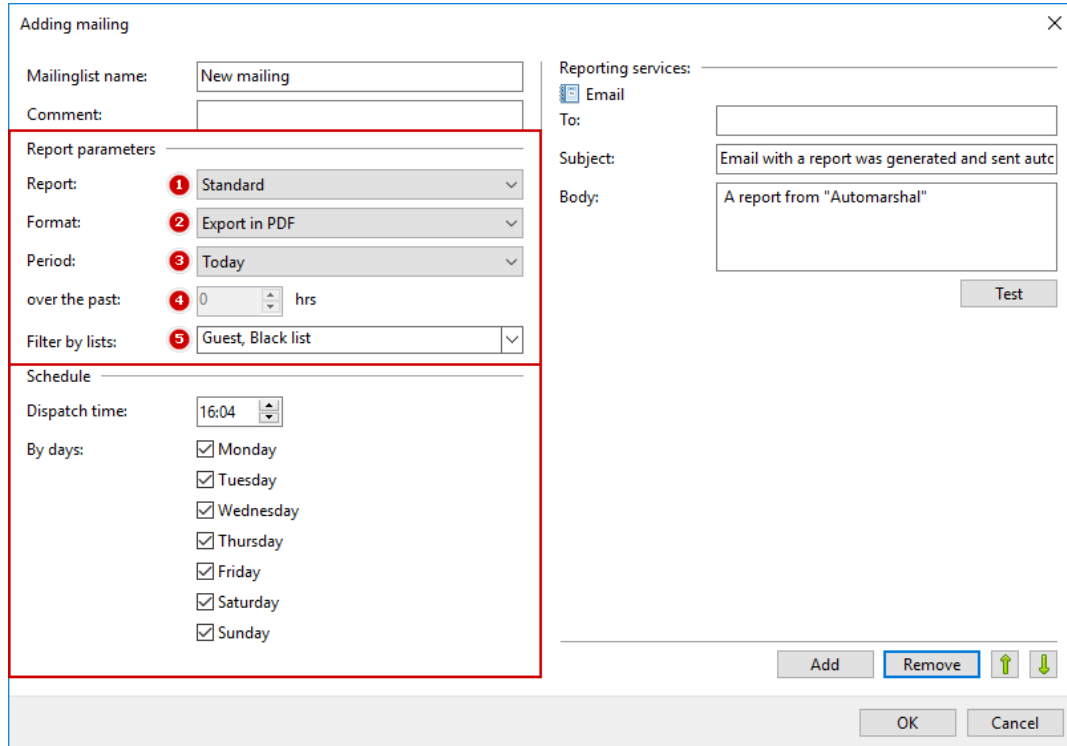

Figure 6.5.3.2
1. Report – a standard version of report is set by default, user-defined versions are set in Settings menu in Report Configurator section. The standard report sample is given in figure 6.5.3.3.